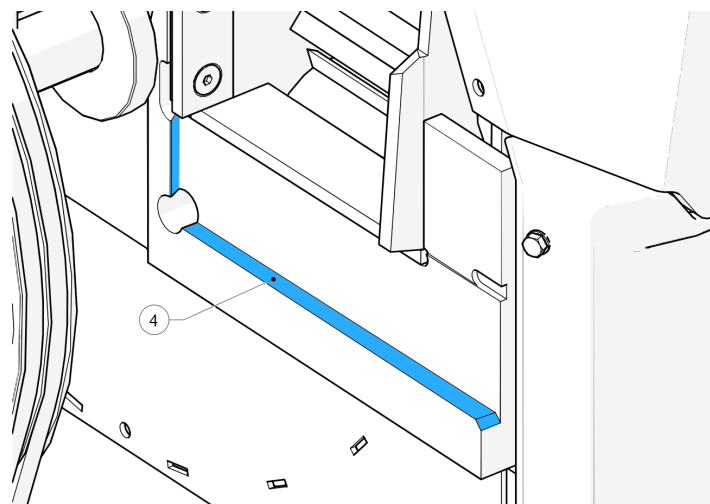

Figure 61 - Anvil seat
12. Make sure the anvil seats are free from dirt and debris before inserting anvil (4, Figure 61).